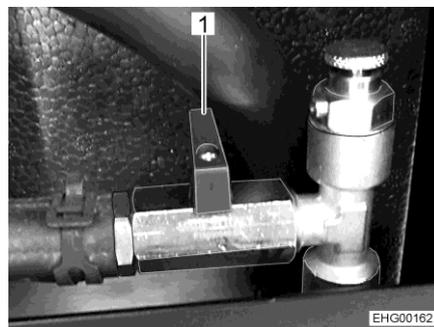

Fig. 170 Spherical valve (closed)
- Set the lever (Fig. 170,1) at right angles to the pipe.